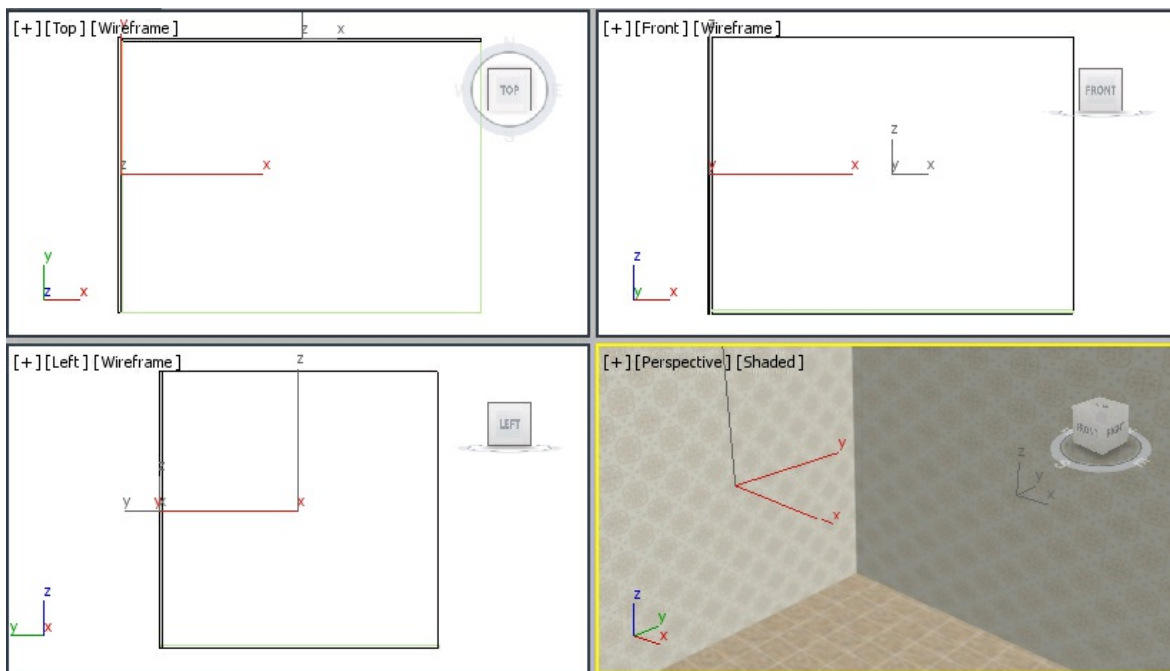

Figure P1-4 The material assigned to wall01 displayed in the viewport
14. Choose the **Show Shaded Material in Viewport** tool to display the assigned material in the viewport, as shown in Figure P1-4. Close the **Material Editor** dialog box.